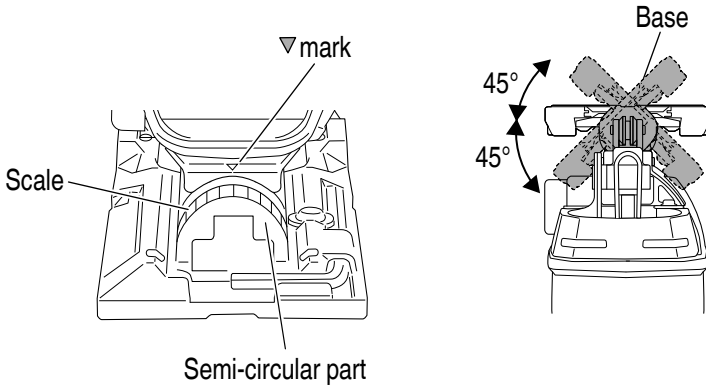

Fig. 29
- (2) Align the scale (from 0 degrees to 45 degrees by 15-degree increments) of the semi-circular part of the base with the [▽] mark on the gear cover. (Fig. 29)